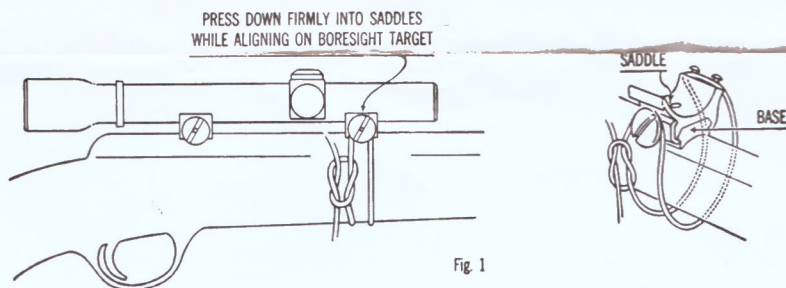

Fig. 1
3. Remove the mount cap from the saddles. Clamp one of the saddles on the first base which has been screwed to the gun, tightening the thumb nut. Clamp the other saddle on the second base, forming a unit which is fastened in position on the gun as shown in Fig. 1. A piece of stout cord is used and when pulled tight will hold the mount securely while boresighting, lining up the scope, and marking position of holes.